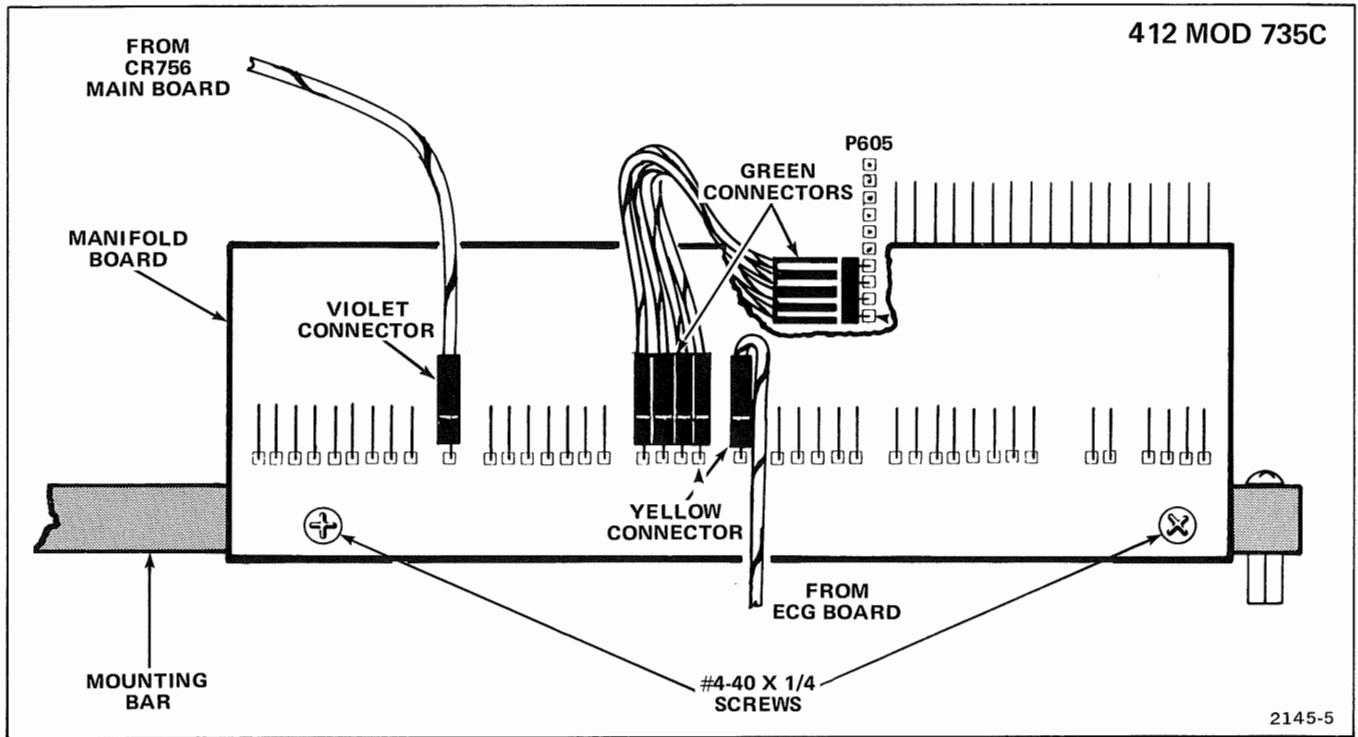

Figure 1-15. Installing Manifold Board and connecting cables in 412 735C.
2. Connect four-wire cable with green connector to P605; install Manifold Board and connect remaining cables. See Figure 1-15.